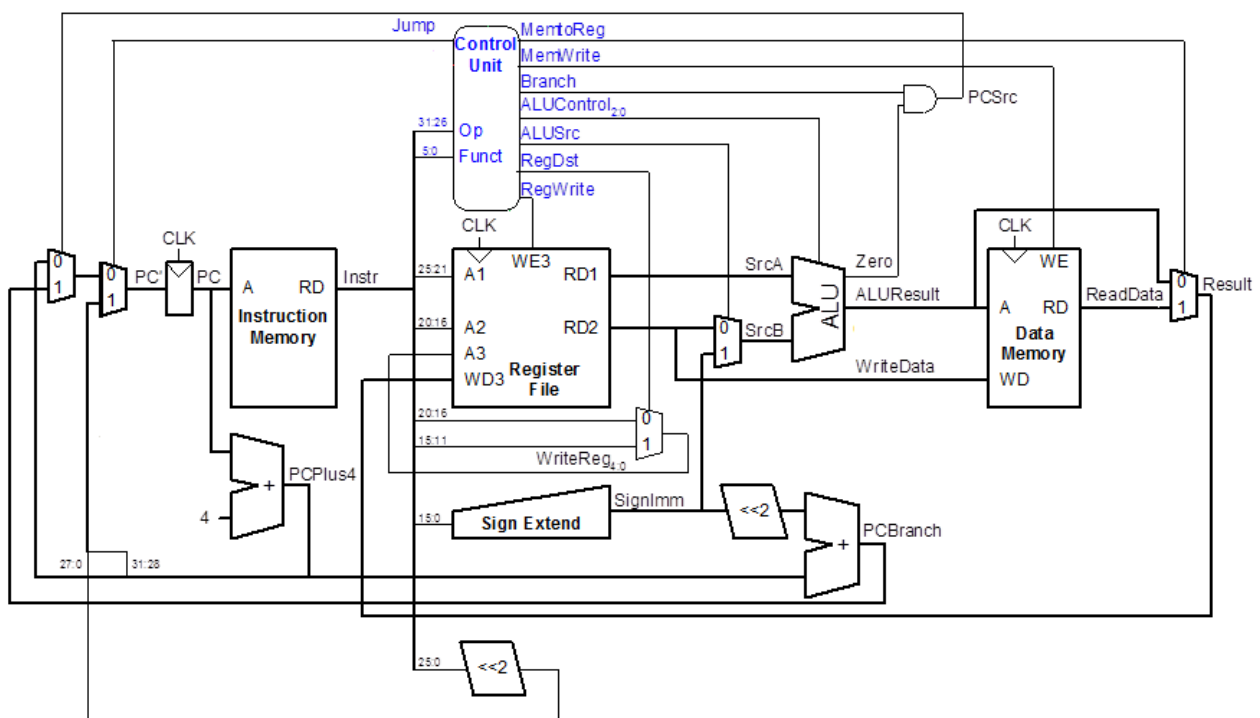

Figure 1: Datapath for Original10
- c) Study the code and convince yourselves that the *datapath* module exactly corresponds to Figure 1 and *controller* module (including *maindec* and *aludec* modules) to Table 1 and Table 2. In the decoder tables, X means it is a “don’t care”. That is, it does not matter if it is 0 or 1.